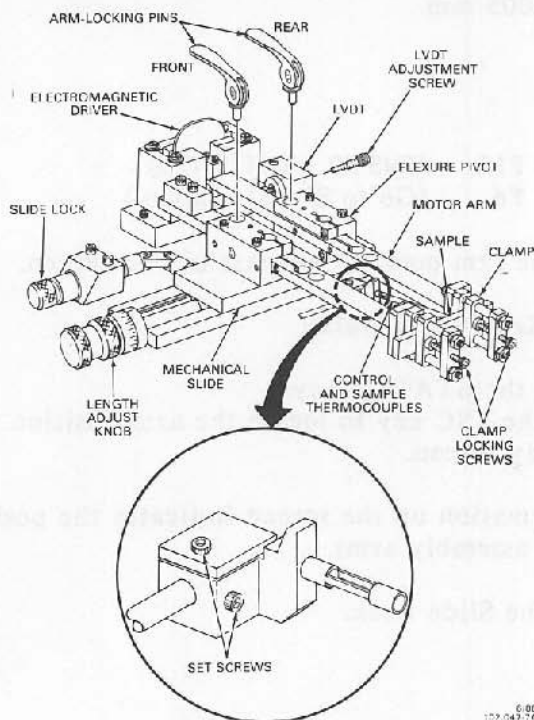

Figure 3.7
13. Check the position of the sample thermocouple. A suitable position is approximately 1 mm away from the sample, one-third the distance from the top of the sample, and one-third the distance from the driven sample arm. The position of the thermocouple can be adjusted using the two setscrews shown in Figure 3.7.